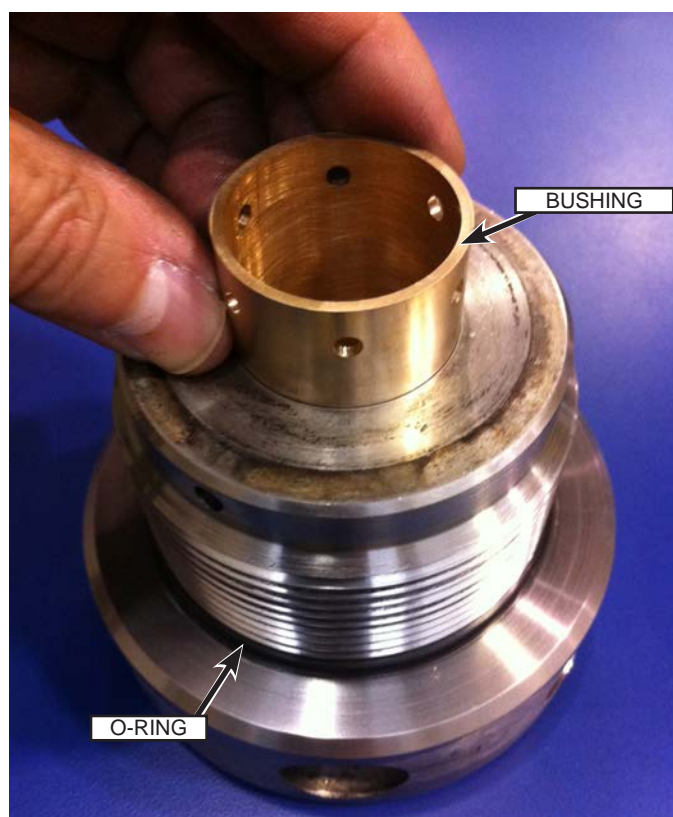

Fig. 74: Guide Bushing Installation
1. Install a new O-ring (Fig. 74) onto the gland nut.
2. Install the guide bushing (Fig. 74) and plunger into the gland nut.
4. Lubricate the gland nut with anti-seize compound. Apply the compound to the threads and on the small face that contacts the inside of the stuffing box as shown in Fig. 74. Place the assembly into the stuffing box. Hand-tighten the gland.